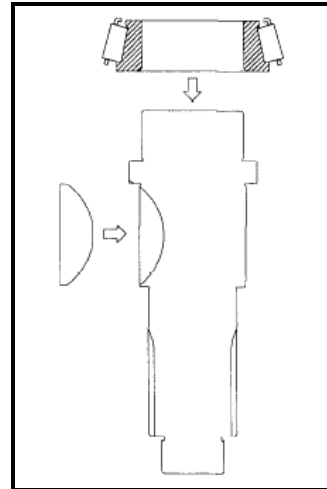

Figure 44
2. Heat and install the bearing cone assembly against the shoulder on the non-threaded end of the input shaft. See **Figure 44**.